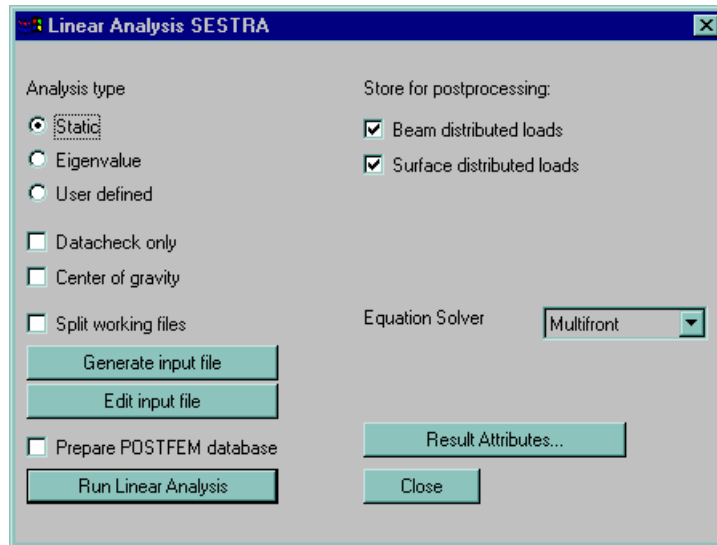

Figure 3.15 Linear static structural analysis — Sestra
- The default **Analysis type** is **Static**, refer to Figure 3.15.